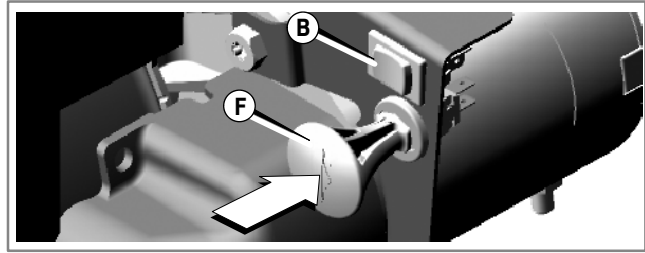

Figure 11: Electric Start
7. **Electric Start** - Push in the safety key (F). Push the ON/OFF switch (B) to the ON position. When the engine starts, release the ON/OFF switch (Figure 11).